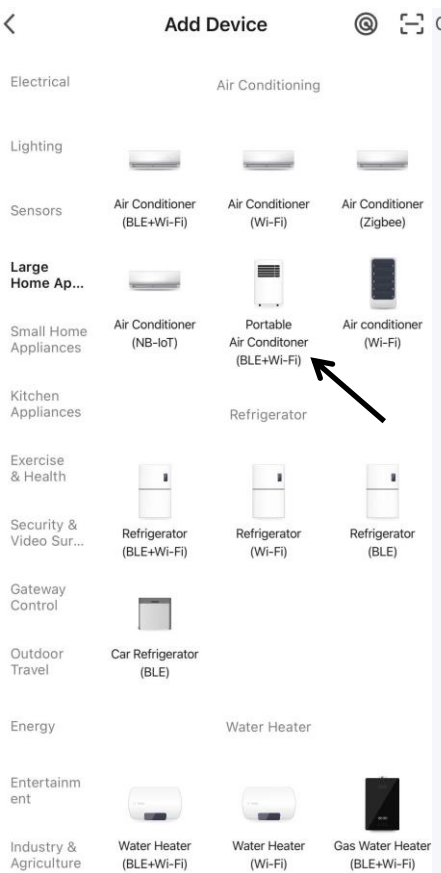

Fig.2
3. Find “Large home appliances” and tap the icon “Portable Air Conditioner (BLE+Wi-Fi)”. (Fig.2)